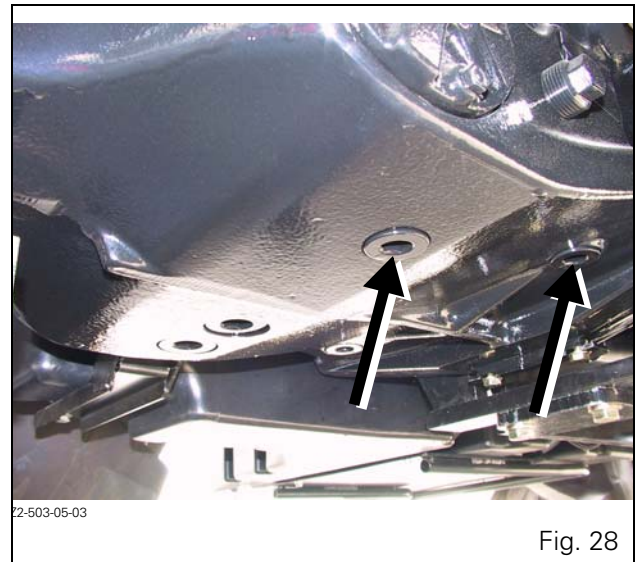
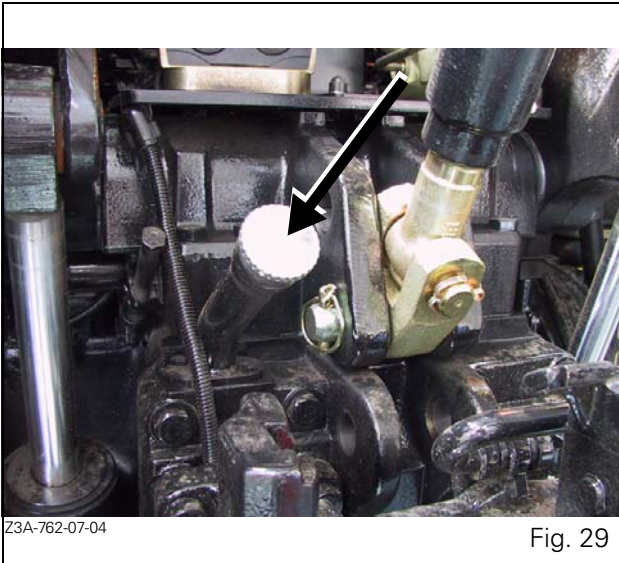

Fig. 28
Fig. 29
2. Remove the drain plugs (Fig. 28) and the filler cap (Fig. 29).